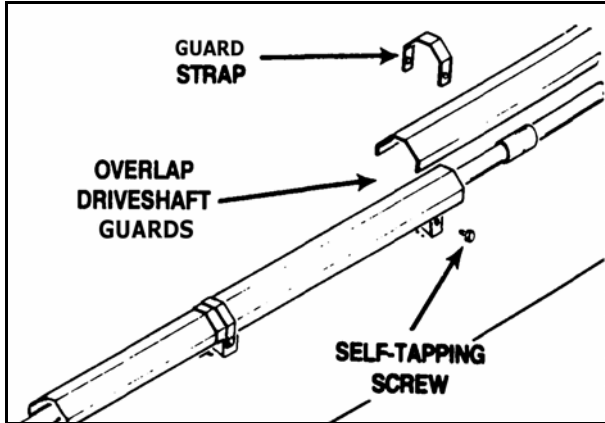

Figure 3.11
4. To install the remainder of the driveshaft guarding, work from the bottom up, overlapping at the bearing brackets (Figure 3.11).